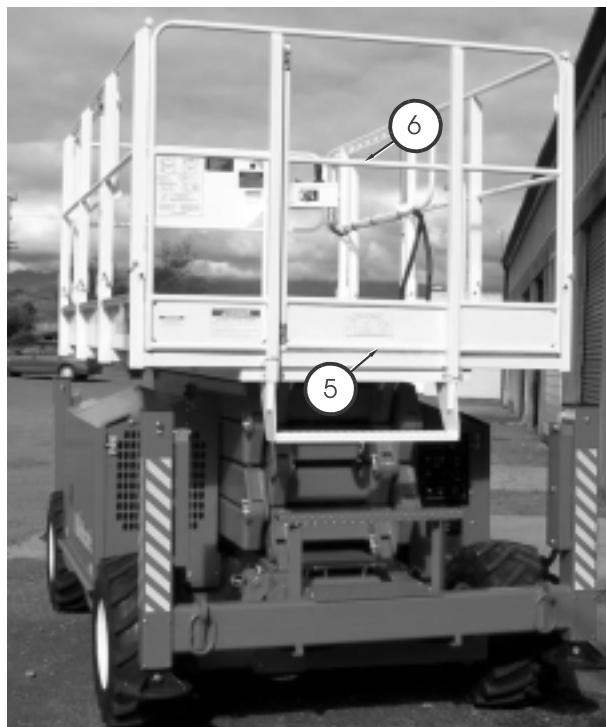

Figure 8.18
5. Enter the platform ⑤ and close the gate ⑥ (see Figure 8.18).